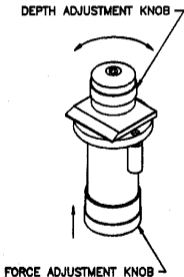

Figure 2-9 – Adjusting Blade Depth
2. Adjust the **Depth Adjustment Knob** so that the tip of the **Cutter Blade** is just visible below the bottom edge of the knob. (See Figure 2-9). **DO NOT** attempt to adjust the final cutting depth by sight. This adjustment should only be done with test cuts described in **FINAL ADJUSTMENT** in this section.
3. Blade depth should be adjusted so that vinyl can be weeded with little or no scoring to backing of vinyl. If blade cuts through backing, **DECREASE** blade depth by turning **Depth Adjustment Knob CLOCKWISE**, as viewed from top. If blade does not cut deep enough, and weeding is difficult, **INCREASE** depth of cut by turning **Depth Adjustment Knob COUNTER-CLOCKWISE**, as viewed from top. (Refer to Figure 2-9).